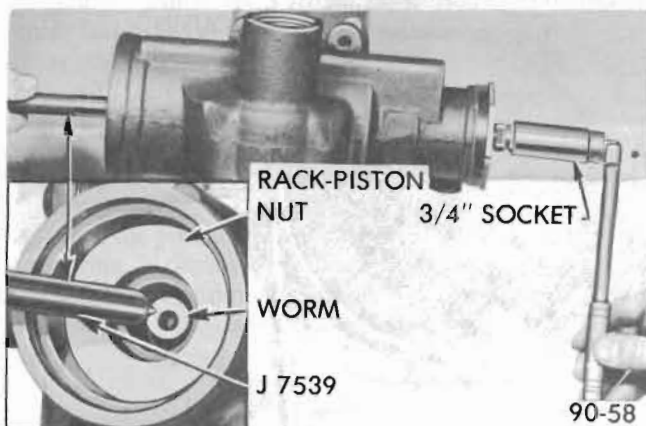

Figure 90-58 Removing Rack-Piston Nut
7. Insert ball retaining tool J-7539 in end of worm. See Figure 90-58. Turn stub shaft so that rack-piston nut will go onto the tool and remove rack-piston nut from gear housing. Keep ball retaining tool completely through rack-piston nut to prevent balls from falling out.